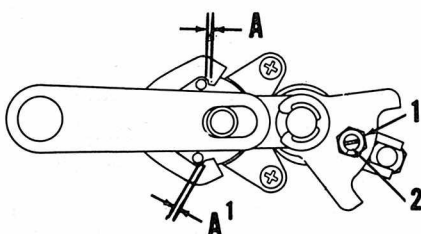

Fig. Y11-10—Turn eccentric screw (2) until clearance (A) is equal.
Gear change lever arm should be adjusted so that clearance (A—Fig. Y11-10) is equal at both points. Loosen lock nut (1) and turn eccentric screw (2) until clearance is correct.